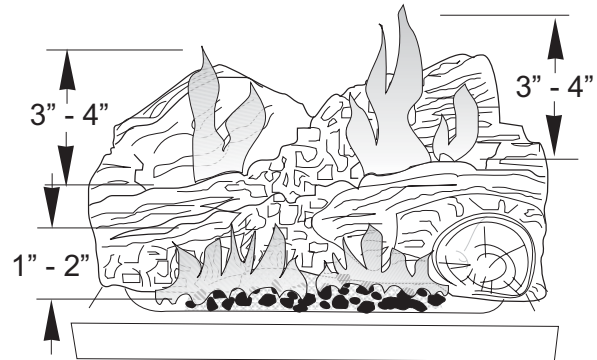

Figure 25. Correct flame appearance on High setting after approximately 15 to 20 minutes operation.
3. BURNER ADJUSTMENT: The GF3 DVII Allagash gas stove is equipped with a variable gas control valve. This valve provides easy adjustment of the flame height appearance and heat output. To adjust the flame between the HI and LOW setting, rotate the HI/LOW knob, located in the center of the valve face. Flame height will adjust approximately 1.0 " to 1.5 " between the HI and LOW settings. See Figure 25.